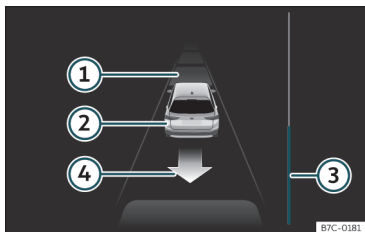

Fig. 231 On the instrument panel display: driving off from perpendicular parking.
Key to the **Fig. 231**:
The progress bar »» Fig. 231 ③ indicates the distance to cover »» page 283.